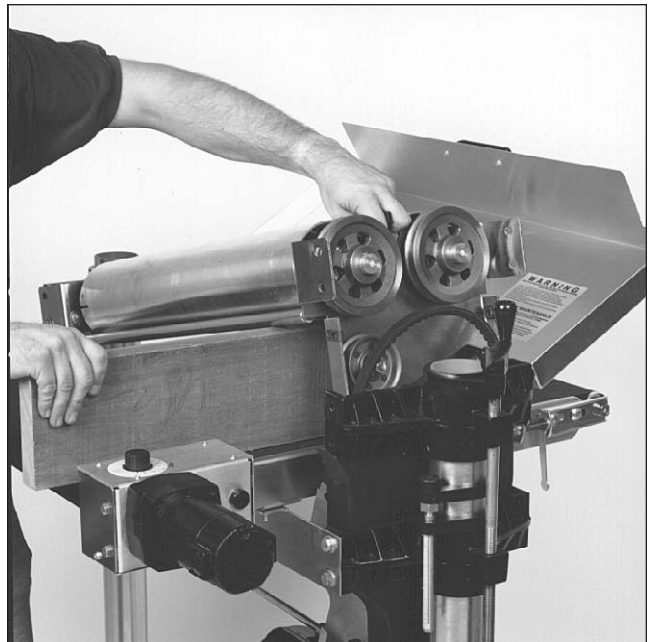

Fig. 32. Supporting drums with 2x6 on edge.
5. Lift the right (inboard) side of drums and place a 2x6 on edge under the drums (Fig. 32). Loosen and remove the V-belt pulleys from drum shafts.